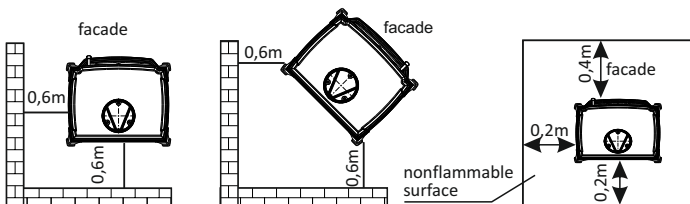

Fig.2. Safe distance from the stove.
- the stove must be placed on the nonflammable surface extending for min. 0,4 m from the stove and min 0,2 m measuring from the sides and the back of the stove (See Fig 2),